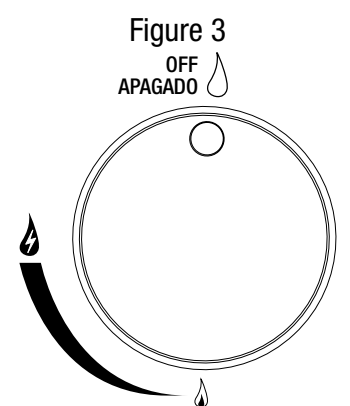

Figure 3
2. Make sure control knobs are (OFF) position (Figure 3).
3. All control knobs must be in the 🔻 (OFF) position (Figure 3).
3. Control knob must be in the 🔻 (OFF) position (Figure 3).